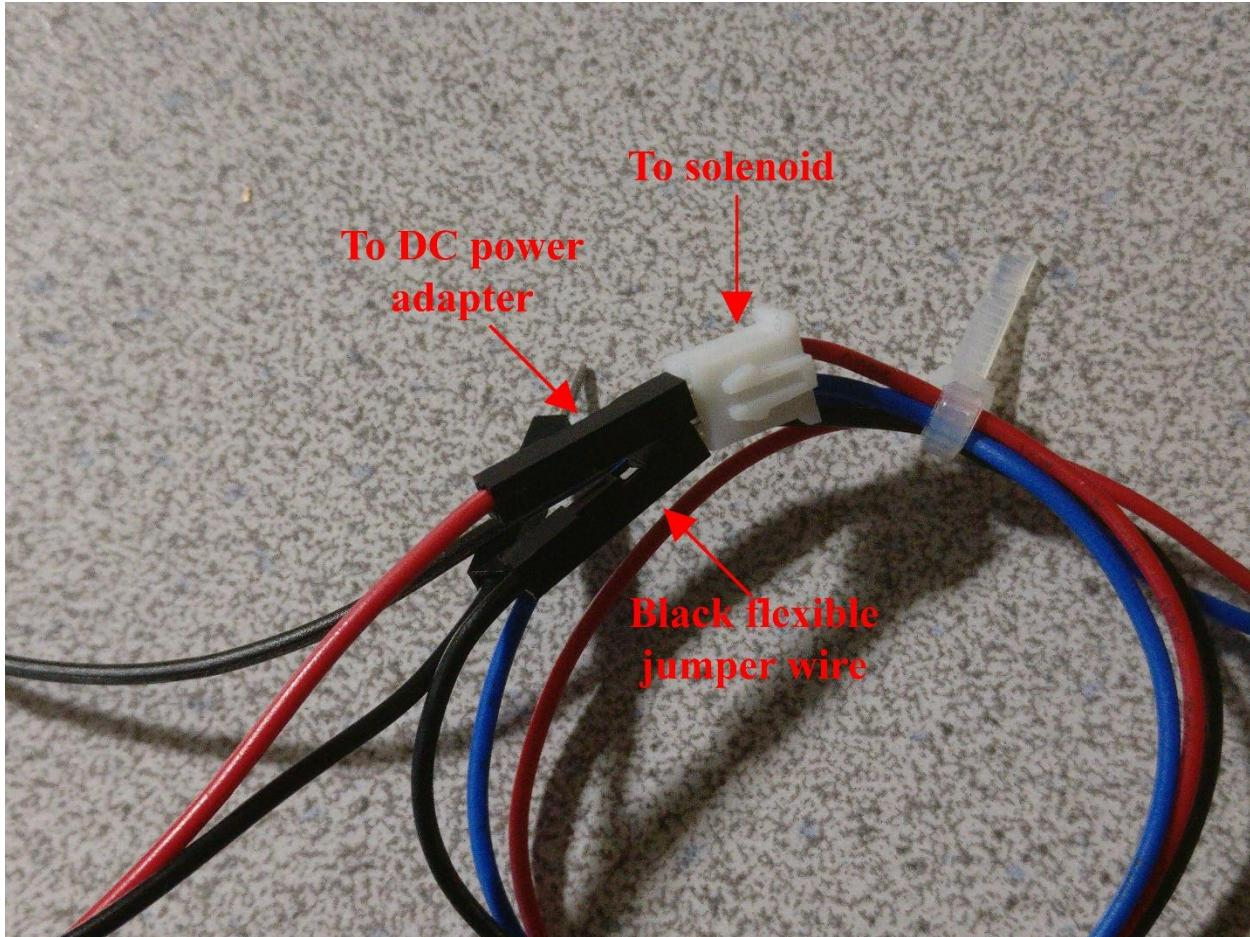

Figure 3-3 – Finished view of solenoid's female connector
20. Plug the positive jumper wire soldered to the DC power adapter into the red (positive) side of the solenoid's female connector. Refer to Figure 3-3 for an example of what the wiring should look like.